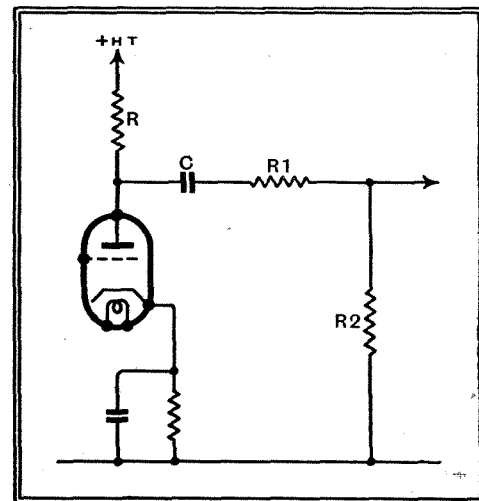

Fig. 1.—This diagram shows the basic circuit of the stage for a flat response curve.
Standing waves are the result of reflections. The original wave train going in one direction has a reflected wave train travelling in the reverse direction superimposed upon it. Fig. 1 shows the mechanism diagrammatically. (a) Depicts the original wave moving to the right and the reflected wave going the other way, i.e., to the left. The sum of the two waves is shown beneath. At (b) the waves have been shifted along by one-eighth of a cycle (in the proper directions) and the sum of the two in their new positions is again drawn below. The remainder of Fig. 1 repeats the operation for successive movements of one-eighth of a cycle.
Fig. 1.—The topmost curve in each of the eight groups of three curves represents a primary sound wave, the curve immediately below it indicating a reflected version of it and the bottom curve the standing wave produced by the combination of the original and the reflected wave. It will be observed that, although the curves indicating the primary and reflected waves are shown displaced in their respective directions—there being a shift of one-eighth of a cycle in the case of each group—the curve representing the standing wave remains in the same position.
see any waves; he can only feel them. As the crest of a big wave passes overhead, the pressure beneath will be greater than when the trough comes along. Thus the waves perceived by fish are variations of pressure, and so also are our sound waves. The curves of Fig. 1 represent the relative air pressures along the wave. The straight zero line is normal air pressure, points above it indicating a greater pressure and points below it a reduced pressure. If time could be stopped while we walked along a sound wave with a sensitive barometer, the variations of pressure could be measured, and would be found to follow the curves we draw of such sound waves. The ear is very sensitive to variations of pressure, and it is the rate at which the ear drum is pushed in and out by the rhythmical pressure variations of a wave train that enables us to determine its pitch or frequency.
* When a level response is required, and in any case over the middle range of frequencies, the circuit takes the form of Fig. 1. The resistance R is the normal coupling resistance of an RC amplifier and C is the coupling condenser; it is made large enough in relation to the other components to exercise a negligible effect over the full range of audible frequencies.
The possibility of hum pick-up, however, can be avoided by abandoning the use of a coil and modifying the circuit so that a condenser can be used instead. With the circuit of Fig. 1 it is not essential to insert an inductance in series with R_2 to obtain top-lift, for it can also be